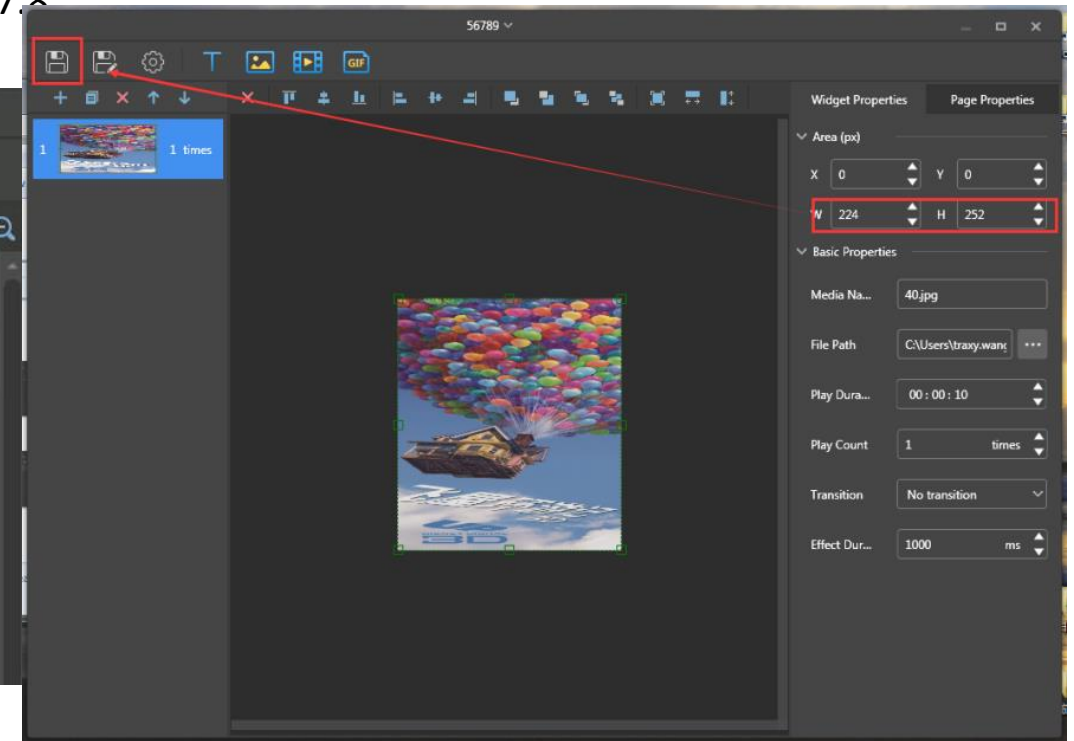

fig 7.8
g. Once finish, please click  to save the playlist. Please refer to fig 7.8